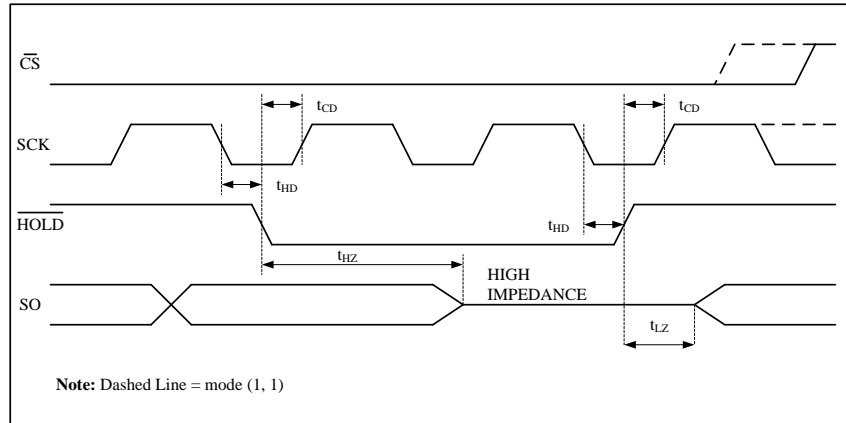

Figure 13
The $\overline{\text{HOLD}}$ input can be used to pause communication between host and BL25CM2A. To pause, $\overline{\text{HOLD}}$ must be taken low while SCK is low (Figure 13). During the hold condition the device must remain selected ($\overline{\text{CS}}$ low). During the pause, the data output pin (SO) is tri-stated (high impedance) and SI transitions are ignored. To resume communication, $\overline{\text{HOLD}}$ must be taken high while SCK is low.